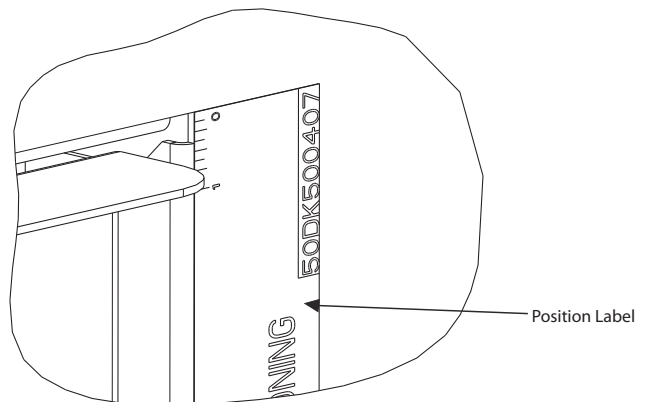

Fig. 3 - Position Label
5. Install position label along right side of opening such that top edge of sticker aligns with top flange of block off. (See Fig. 3.)